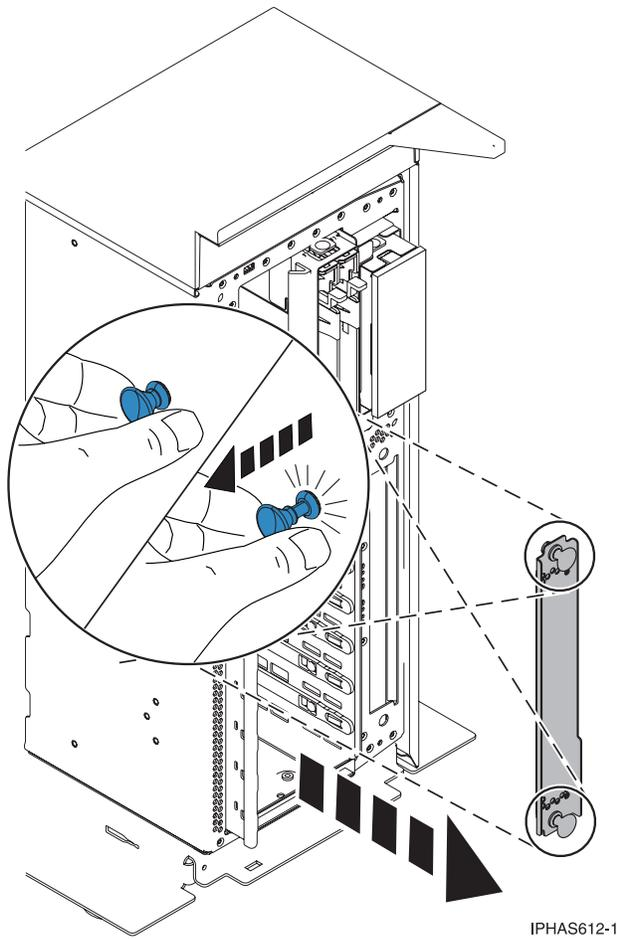
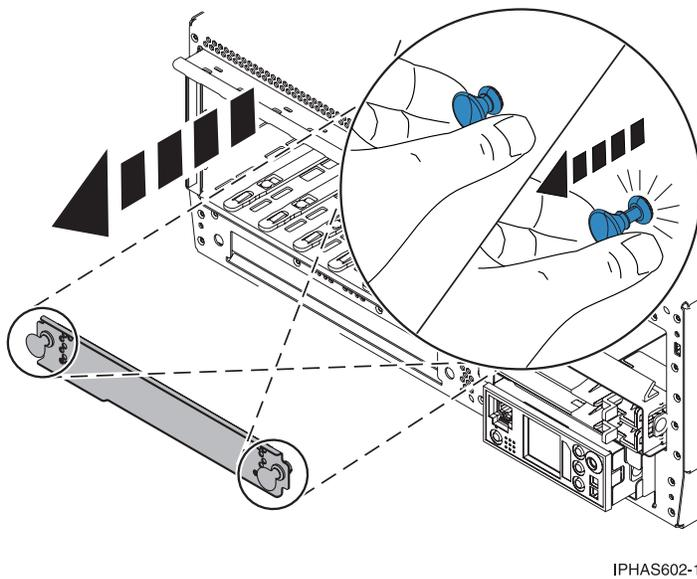

Figure 1. RAID enablement card filler in a stand-alone system unit
Figure 2. RAID enablement card filler in a rack-mounted system unit
2. Remove the RAID enablement card filler from the system, as shown in Figure 1 on page 3 or Figure 2 on page 3.